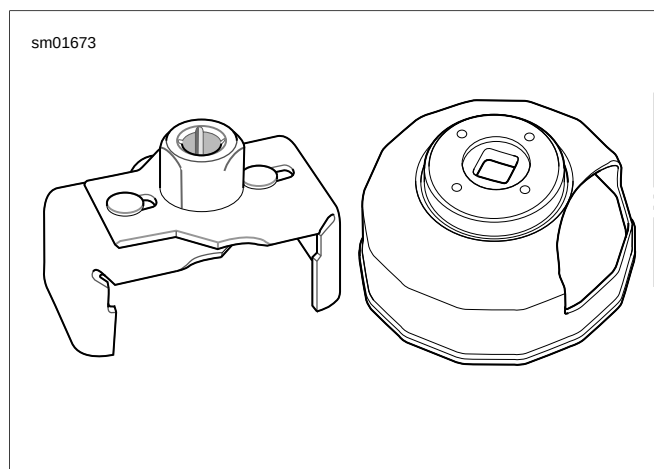
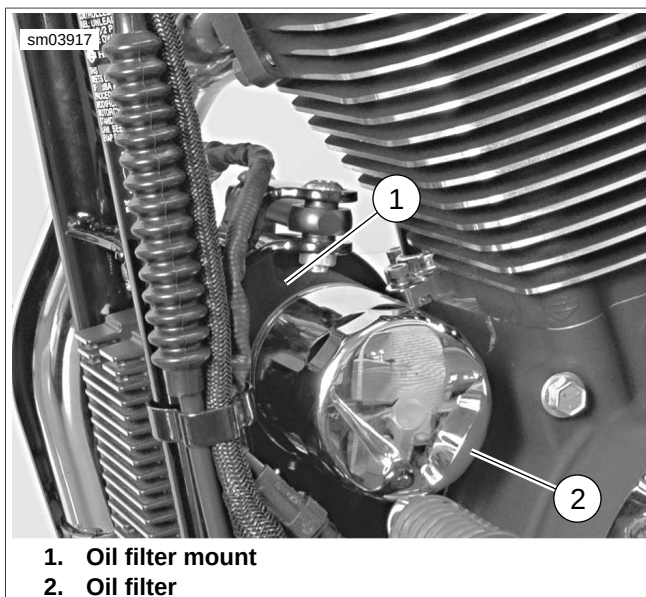

Figure 1-4. Oil Filter Wrenches
Figure 1-6. Oil Filter: All Models (XL 1200C Shown)
- See Figure 1-4. See Figure 1-6. Remove oil filter using HARLEY-DAVIDSON OIL FILTER WRENCH (Part No. HD-42311) or HARLEY-DAVIDSON OIL FILTER WRENCH (Part No. HD-44067-A). Turn oil filter counter-clockwise to remove from filter mount.